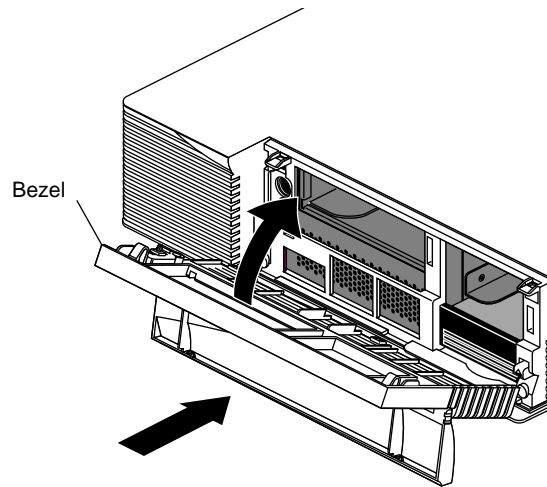

Figure 4-18 Replacing the Bezel
- Place the tabs on the bottom of the bezel in the grooves in the front of the chassis, as shown in Figure 4-18.